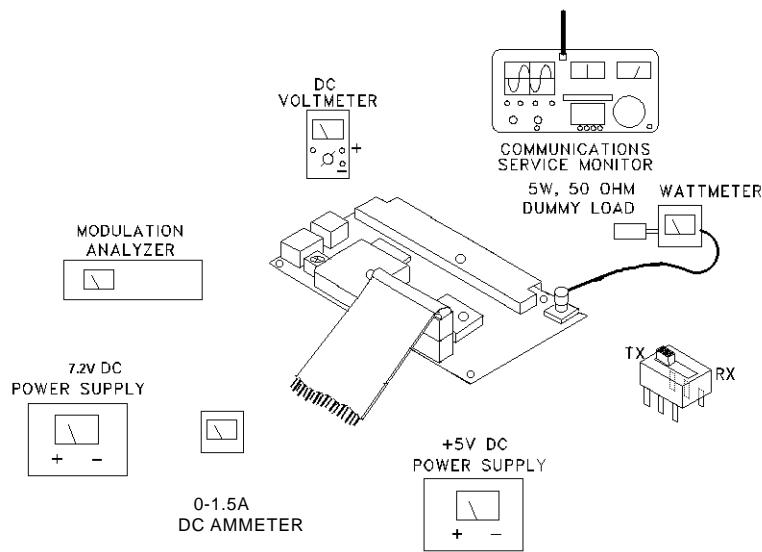

Figure 6-1 TRANSMITTER TEST SETUP
1. Connect the test setup shown in Figure 6-1. Set the power supply for +7.2V DC.
1. Connect the test setup shown in Figure 6-1. A DC ammeter capable of measuring up to 2.0 A should be installed in the supply line.